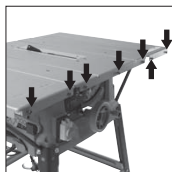

Fig. 11
- Attach the seven coach bolts (R) within the seven holes of the machine (two in each extension and three in the main aluminium table) using washers (O) and 6mm nuts (S). Hand tighten only. (Fig. 11)